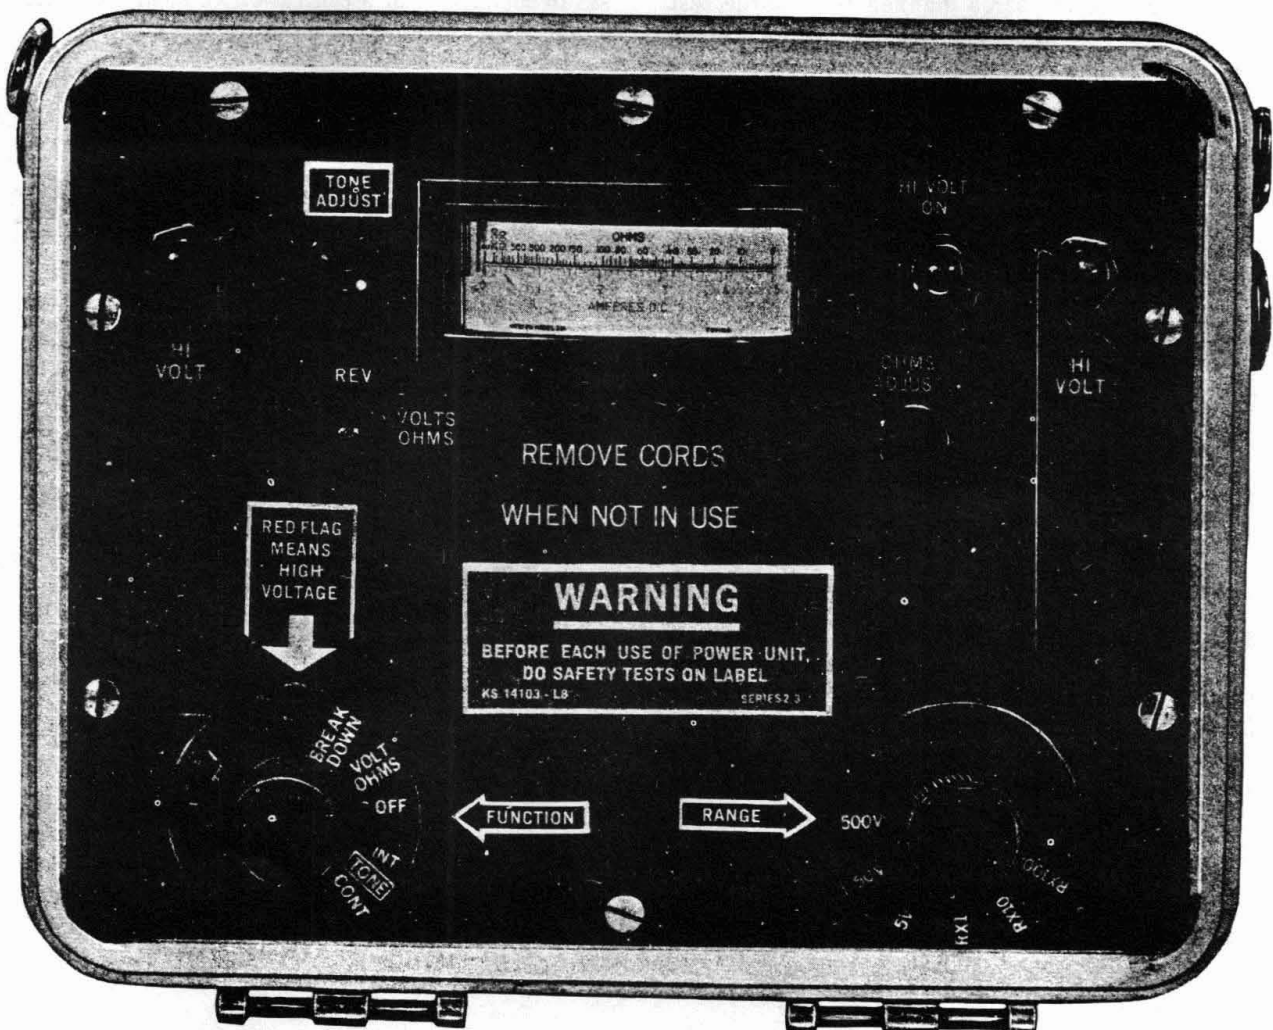

Fig. 3—L8 Control Panel
3.03 Switch positions and functions: (Fig. 3)
7.03 Tests for opens and connected stations can be made by operating the VOLT-OHM REV pushbutton switch (Fig. 3) and observing the meter deflection with the switches in the following positions.